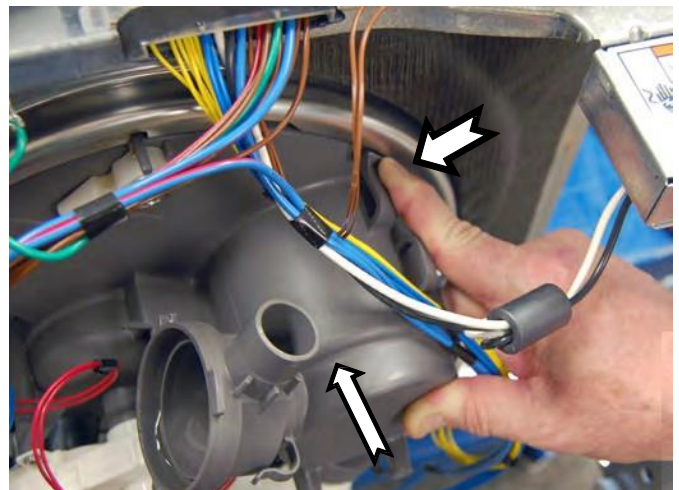

Figure 8 -
7. Unlock the three tabs securing the motor and sump assembly to the tub, see figures 8, 9 and 10.